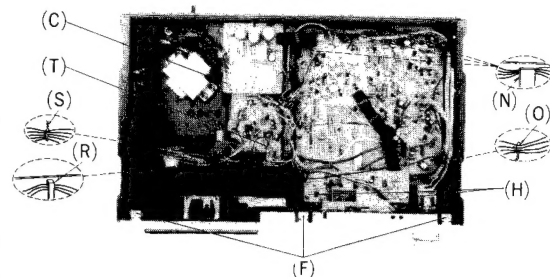
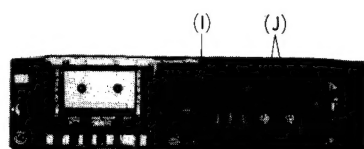

Fig. 3
Fig. 4
B Head azimuth adjustment Condition: * Playback mode Equipment: * VTVM * Oscilloscope * Test tape (azimuth) ...QZZCFM * Test tape (tape path viewer) ...QZZCRD	<p>Combination head azimuth adjustment</p> <ol style="list-style-type: none"> 1. Test equipment connection is shown in fig. 3. 2. Playback azimuth tape (QZZCFM 8kHz). 3. Adjust record/playback head angle adjustment screw (B) in fig. 4 so that output level at LINE OUT becomes maximum. 4. Measure both channels, and adjust levels for equal output. 5. After adjustment lock head adjustment screw with lacquer.  <p style="text-align: center;">Fig. 3</p>  <p style="text-align: center;">Fig. 4</p>
<p>Ⓕ Playback gain</p> <p>Condition:</p> <ul style="list-style-type: none"> * Playback mode * Normal position * Output level control ... MAX <p>Equipment:</p> <ul style="list-style-type: none"> * VTVM * Oscilloscope * Test tape ... QZZCFM 	<p>1. Test equipment connection is shown in fig. 3.</p> <p>2. Playback standard recording level portion on test tape (QZZCFM 315Hz), and using VTVM measure the output level at LINE OUT.</p> <p>3. Make measurement for both channels.</p> <div style="border: 1px solid black; padding: 5px; text-align: center;"> Standard value: around 0.7 V </div> <p>Adjustment</p> <p>1. If measured value is not standard, adjust VR1 (L-CH), VR2 (R-CH) (See fig. 1).</p> <p>2. After adjustment, check "Ⓕ Playback frequency response" again.</p>